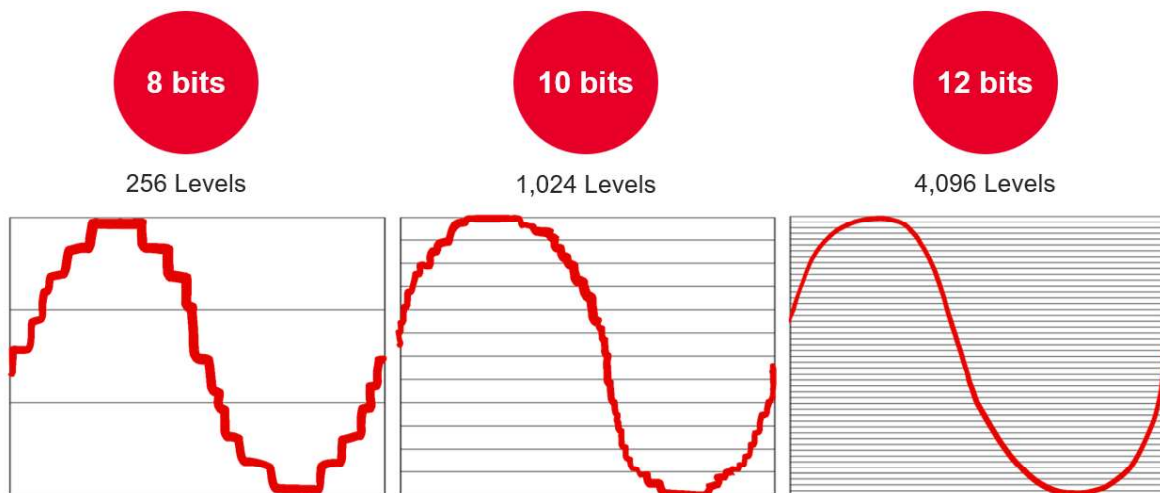

Figure 5. ADC resolution comparison showing differing levels of signal quantization
1. **High-resolution analog-to-digital converters (ADCs):** Higher resolution reduces quantization noise as shown in Figure 5, exposing small signal variations, marginal eye opening, vertical noise, and subtle equalization behavior.